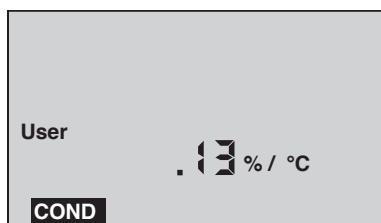

Figure 2
- b. With User mode now selected, press . You may now adjust a temperature compensation from .00%/°C to 9.99%/°C, by pressing  or . See example in Figure 2.